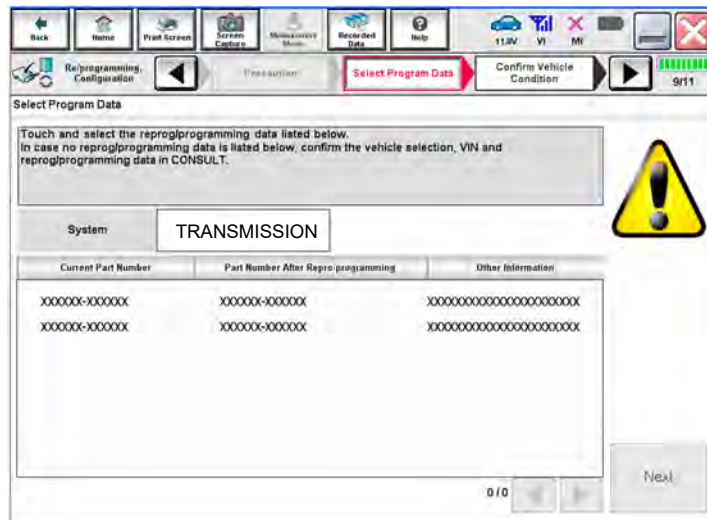

Figure 191
- If more than one new P/N is available, the screen in Figure 191 displays.